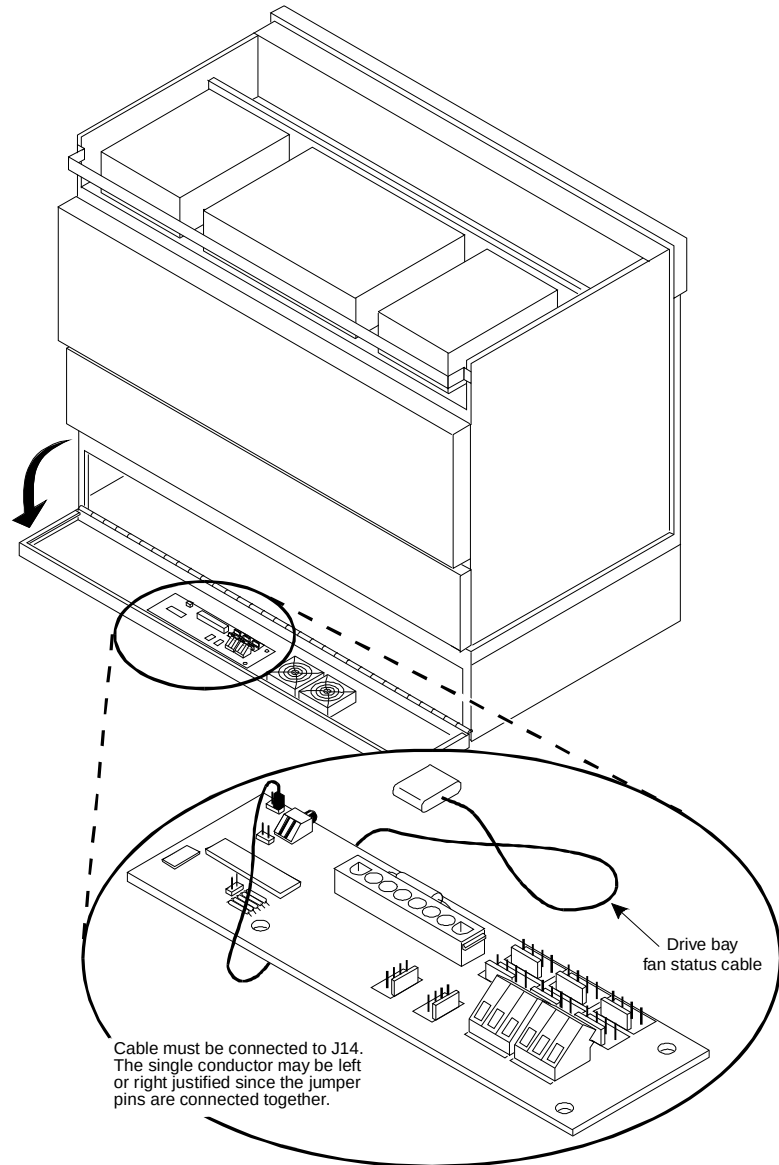

Figure 7-8. MAP/100C Fan Cables
8. Disconnect the wires from the screw terminal (Figure 7-8).